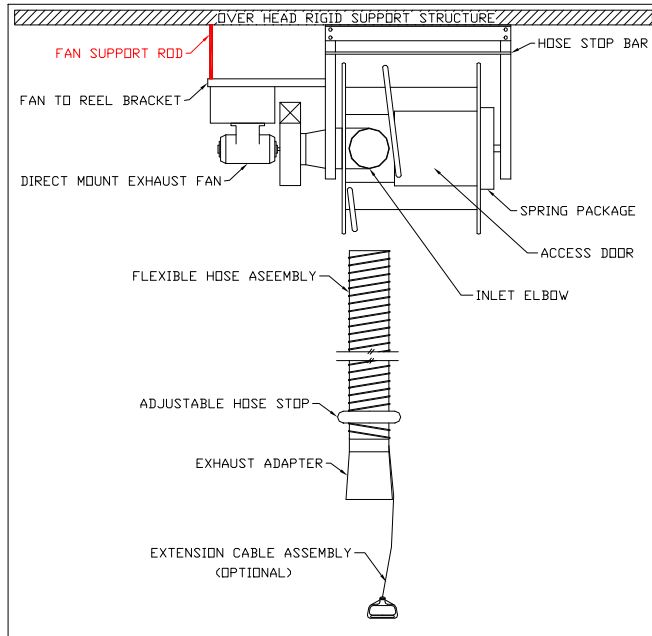

FIG2A - REEL WITH INTEGRAL EXHAUST FAN
- For hose reel with direct mounted fan, an additional support is required to support the fan. Run a 1/2" bolt/rod (not provided) down from overhead structure to the hole at the end of the rectangular steel fan bracket. Secure with locking fasteners. Reference FIG2A.